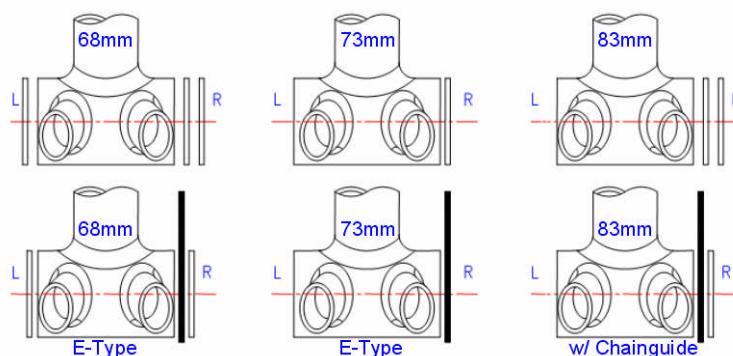

Fig. 2: Alloy Shell Spacer Diagram for MTB MegaExo
- (0) Check the BB Shell as described above.
- (1)(2)(3) Install the R. bearing cup, alloy middle spacer and the required alloy shell spacers (See Figure 2). Tighten cup to 400~500 kgf-cm / 39~49 N-m / 29~36 ft-lbs. (Use FSA MegaExo cup tool part no. E0139)
- (4) Ensure the alloy center sleeve is in place inside the alloy middle spacer.
- (5)(6)(7) Install the L. bearing cups, rubber shell spacer and alloy shell spacers. Tighten cup to 400~500 kgf-cm / 39~49 N-m / 29~36 ft-lbs.
- (8)(9) Check that the O-ring is fully installed onto the axle of the R. crank from the factory. Gently and completely insert the R. crank through the BB cups. Take great care not to damage the plastic cover of left BB cup. Use a light layer of grease on the bearing covers if necessary.
- (10) Install O-Ring on L. side of axle.